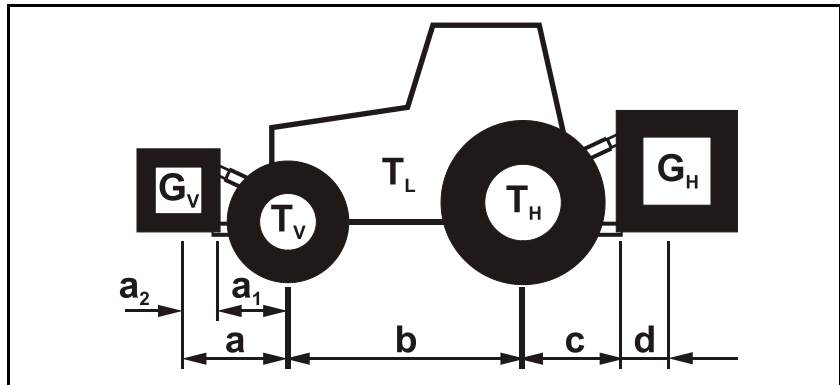

Fig. 51
3. Turn the PTO shaft guard (Fig. 51/1) to the installation position.
4. Pull off the guard half (Fig. 51/3).